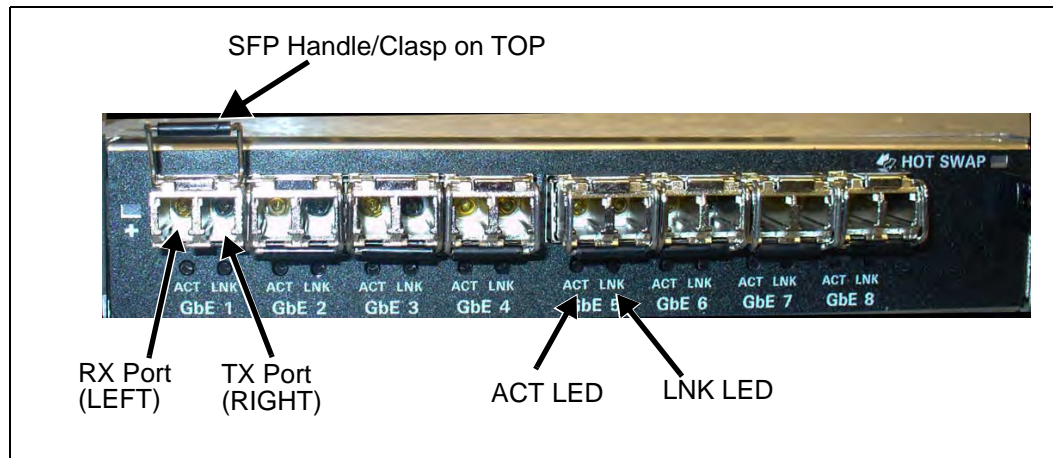

Figure 5.5 - G10 1G Ethernet Connections with SFPs
SFPs are inserted into the 1G connections with the *open handle or clasp on TOP* (Figure 5.5). For the **1G Ethernet connections**, the left port is **Receive (RX)** and the right port is **Transmit (TX)**.